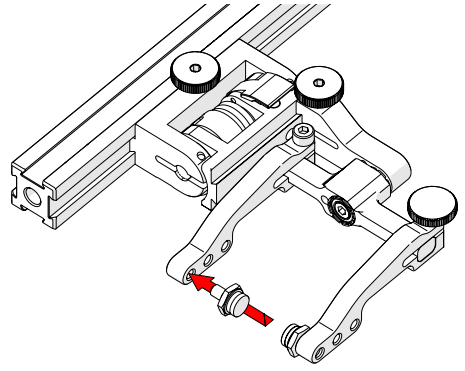

Fig. 150 - Place pivot buttons
4. Using the supplied 3/8 in wrench (Fig. 70), place the pivot buttons (Fig. 150) farthest from the yoke for maximum wedge clearance.